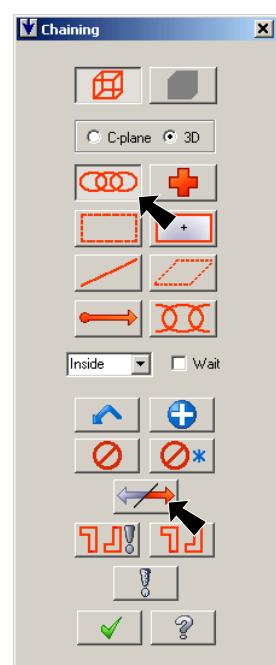

Fig. 17
Step 2. Select Chain (C) in Chaining dialog box, Fig. 17.